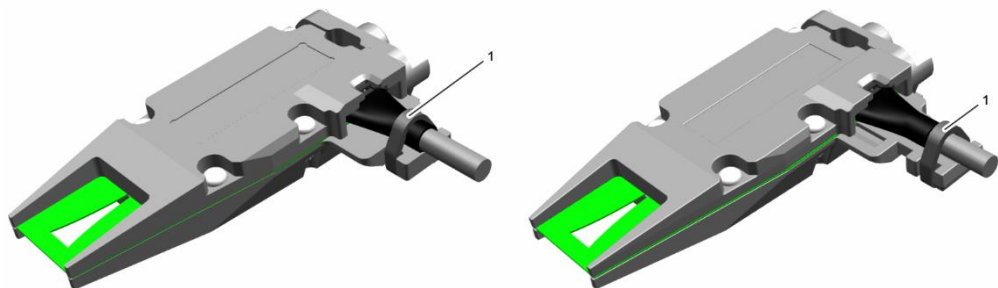

Figure 2-1: Removing cable tie
1. Remove the cable tie (1). See Figure 2-1: Removing cable tie.